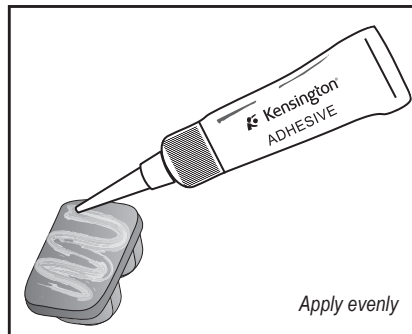

Fig. 1
2. Evenly coat back of mini plate with the adhesive (c). Use the tube's application tip to spread adhesive toward the edges of the plate [fig. 1]